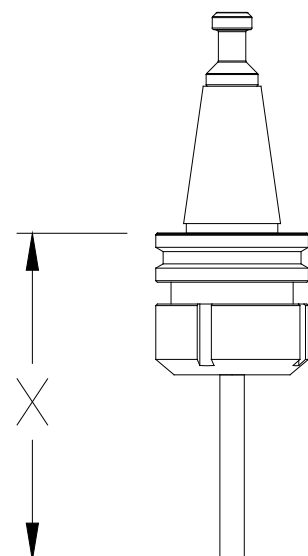

Fig. 56
- Measure the length of the tool from the reference, as shown in Fig. 56.